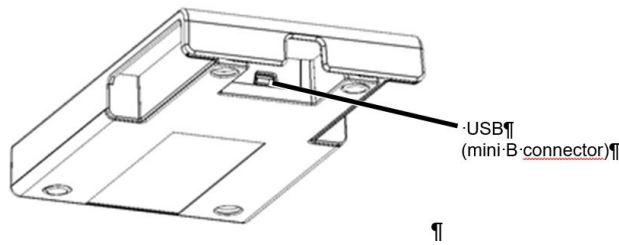

Fig.1 USB Type mini B Interface
Kabellänge: max 2,5 m (siehe Fig. 1)
- The connection with a PC and the power supply takes place through the USB connector via a USB cable with mini B connector. Cable length: max. 2,5 m (see Fig. 1).